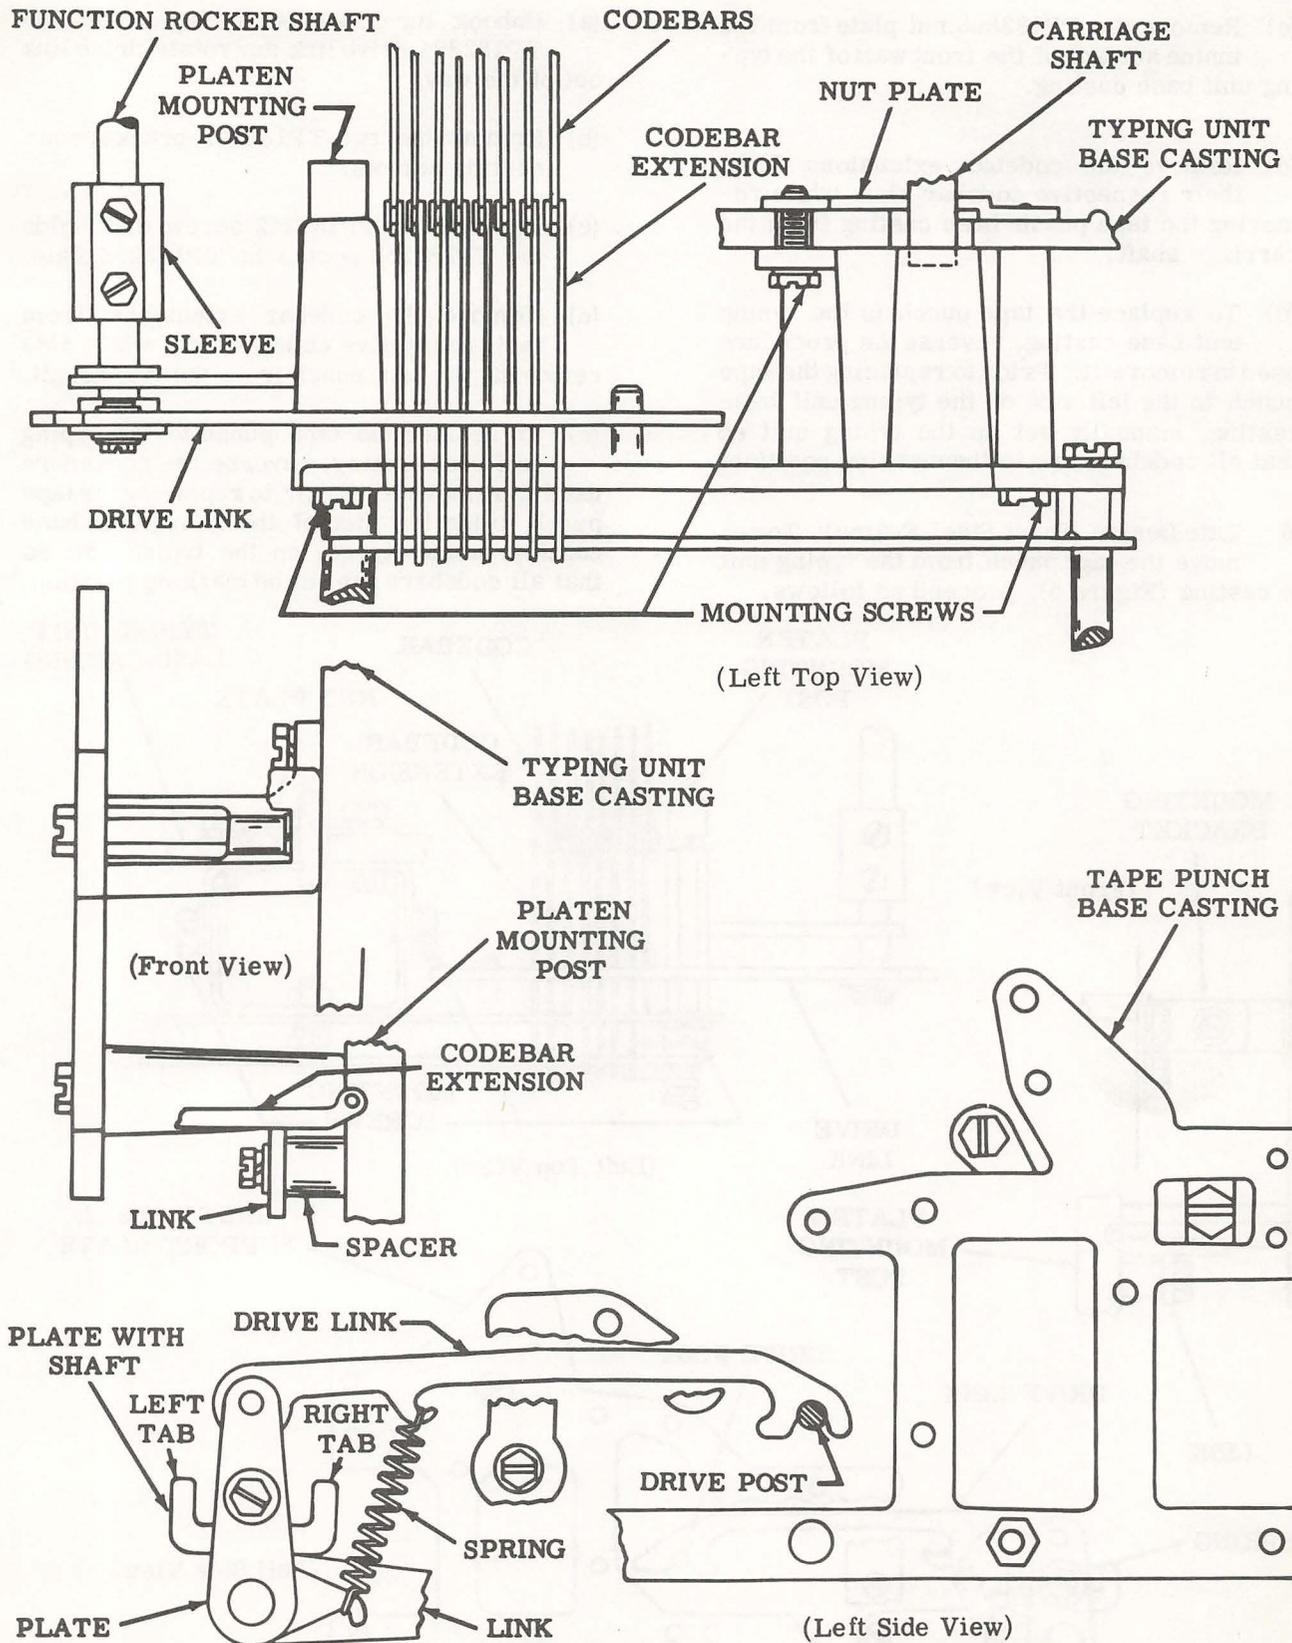

Figure 4 - Tape Punch (Early Design)
2.07 Early Design (Aluminum Casting): To remove the tape punch from the typing unit base casting (Figure 4), proceed as follows.